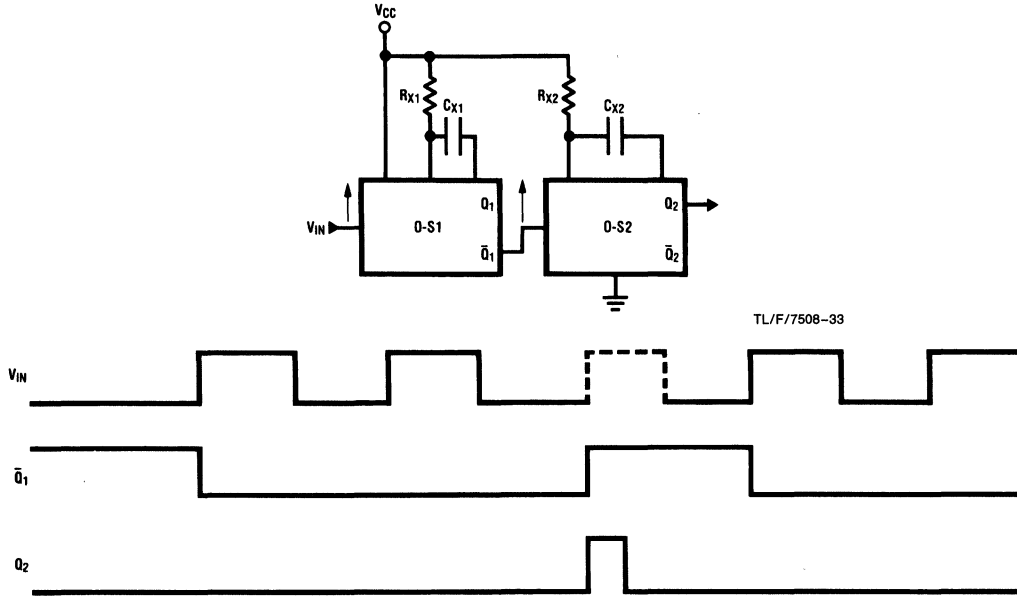

FIGURE 13. Missing Pulse Detector (Retriggerable Device Required)
**MISSING PULSE DETECTOR (Figure 13)**